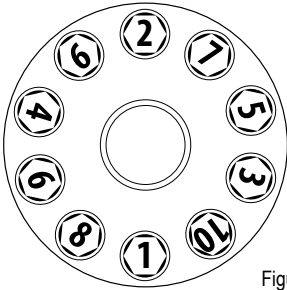

Figure 33A
1. Mount both wheels and snug up nuts in sequence shown (Figure 33A & 33B).